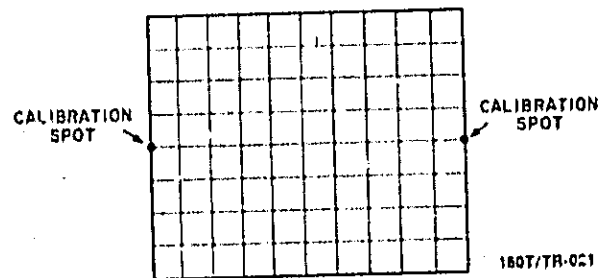

Figure 5-16. Calibration Display
e. While alternately connecting and disconnecting resistor to emitter of A2Q3 adjust X1 Gain Adj, A2R36, for exactly 10 major divisions of separation between spot positions (see figure 5-16 and figure 5-17).